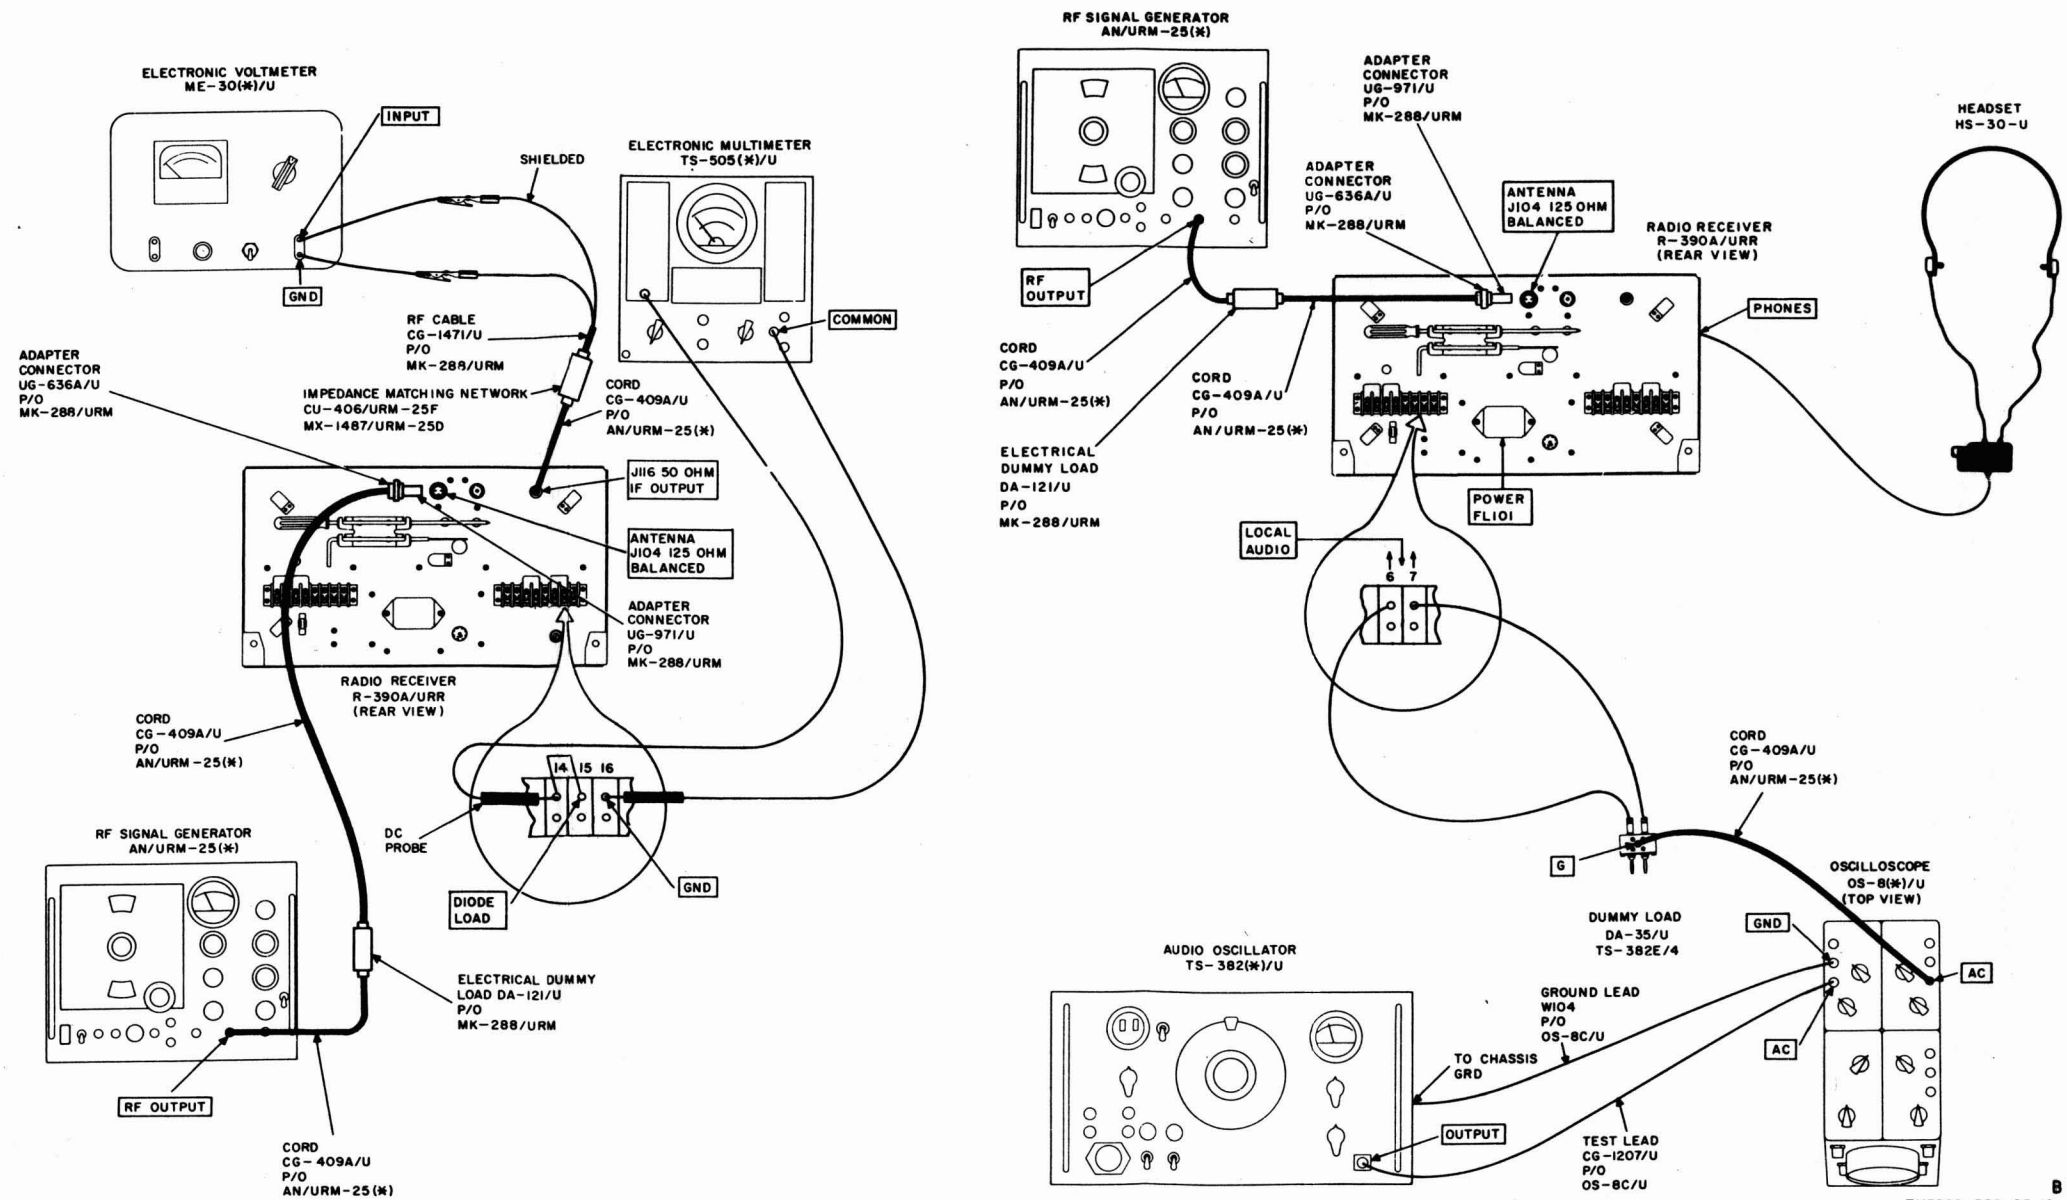

Figure 76. If. output and bfo calibration test setup.
(fig. 76)
b. Test Connections and Conditions. Connect the equipment as shown in A, figure 76. Turn on all test equipment and allow a warmup time of 15 minutes.